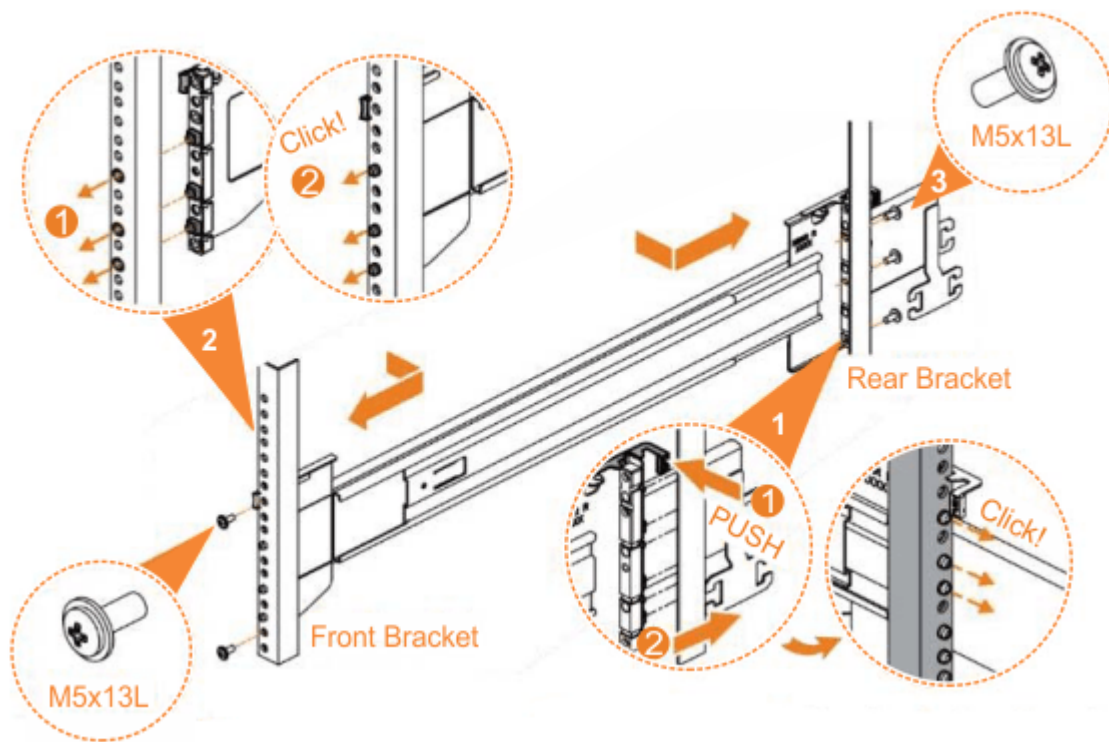

Figure 36. Installing the rail assembly to the rack frame
6. Use the M5 screws to install the outer rail member and bracket assembly to the rack, as shown in Figure 36 on page 46.